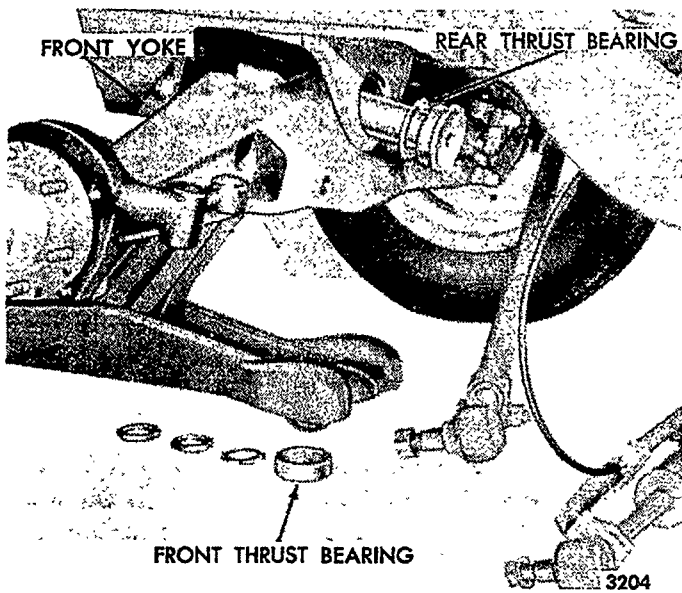
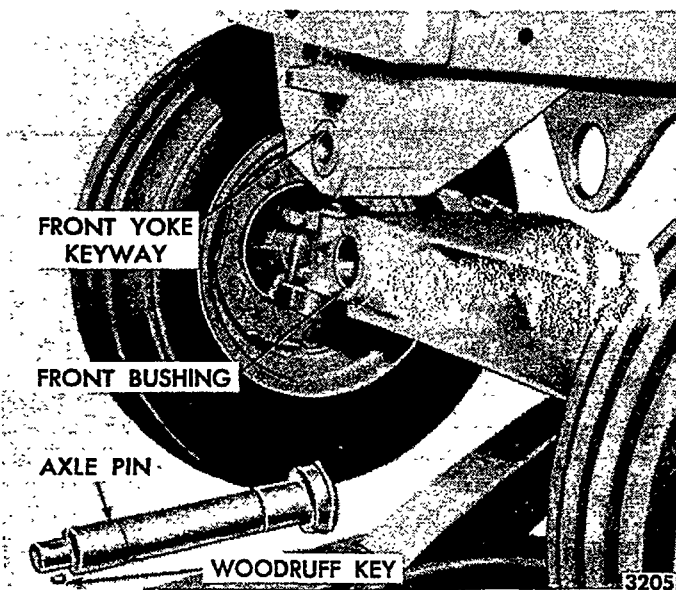

Figure 29—Removing Axle Pin
Figure 30—Removing Front Axle
the support, remove the axle pin front thrust bearing, Figure 29.
NOTE: *The left front wheel has been removed in Figure 29 for illustration purposes only.*
13. Raise the front of the tractor to clear the axle as shown in Figure 29, and pull the axle assembly forward with the floor jack.
Axle bushing wear can be detected before the axle is removed from the tractor. It is good practice to check the axle for excessive play when servicing the front end. There are two bushings in the axle pin bore on the front axle; the front bushing, shown in Figure 30, and the rear bushing, located at the rear of the bore. Both bushings have the same diameter,
3. Slip the rear thrust bearing on the axle pin, Figure 29, and insert the Woodruff key, Figure 30, in the recess at the rear of the keyway.